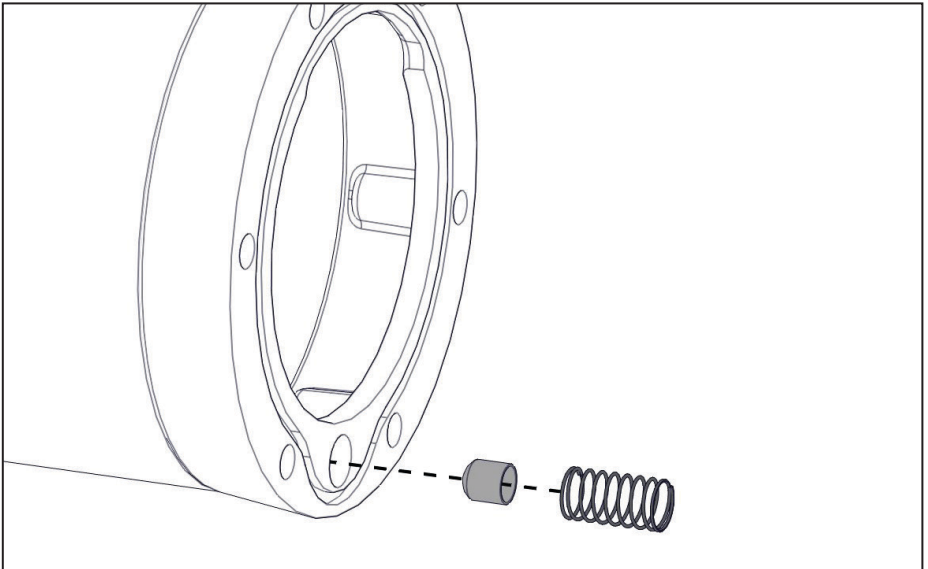

Figure 32 — Remove small spring and scavenge screen
- Remove the small spring and scavenge screen. The screen can be removed by carefully pushing it out of the oil scavenge hole from the inside of the AOST (Figure 32).